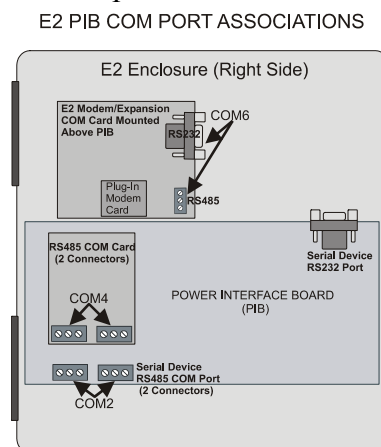

Figure 3 - E2 PIB COM Port Locations
- **COM6** - The RS485 serial port on the E2 Modem/Expansion COM Card (P/Ns 637-4871, 637-4872, and 637-4873), a peripheral board that must be purchased separately. MODBUS must be connected to the RS485 port as labeled in *Figure 3*.
The connectors for the COM2, COM4, and COM6 ports are shown in *Figure 3*. Note that the COM port assigned for use as MODBUS may not be used to communicate with CPC I/O boards or any other type of serial device - only MODBUS devices may be connected to the port.